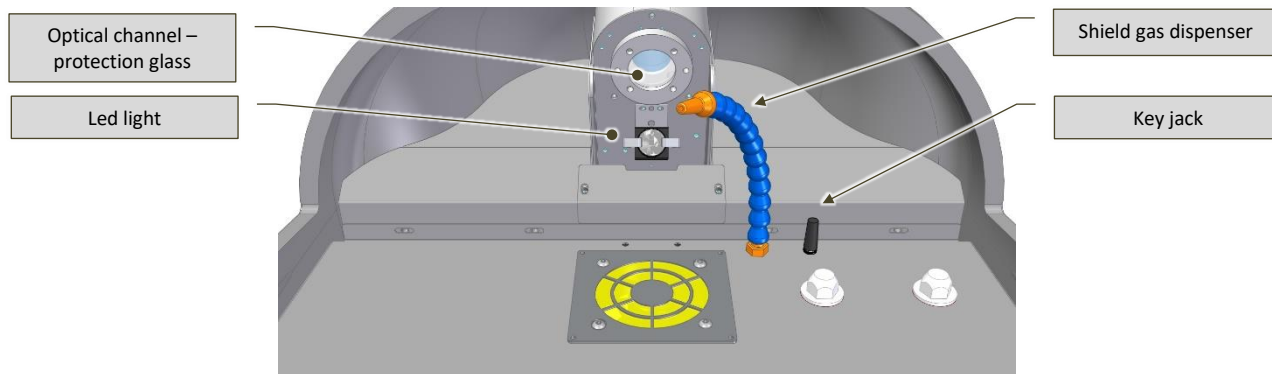

Fig. 7-8 – Optical channel – view from welding chamber
- Laser radiation optical output channel, protected by a special protection glass featuring a fine crosshair aiming reticle (Fig. 7-8);
- Mobile shield gas dispenser with controller (Fig. 7-8);
This channel is closed by a protection glass (Fig. 7-8) which protects the optical channel from fused particle projections which may take place during welding operations.